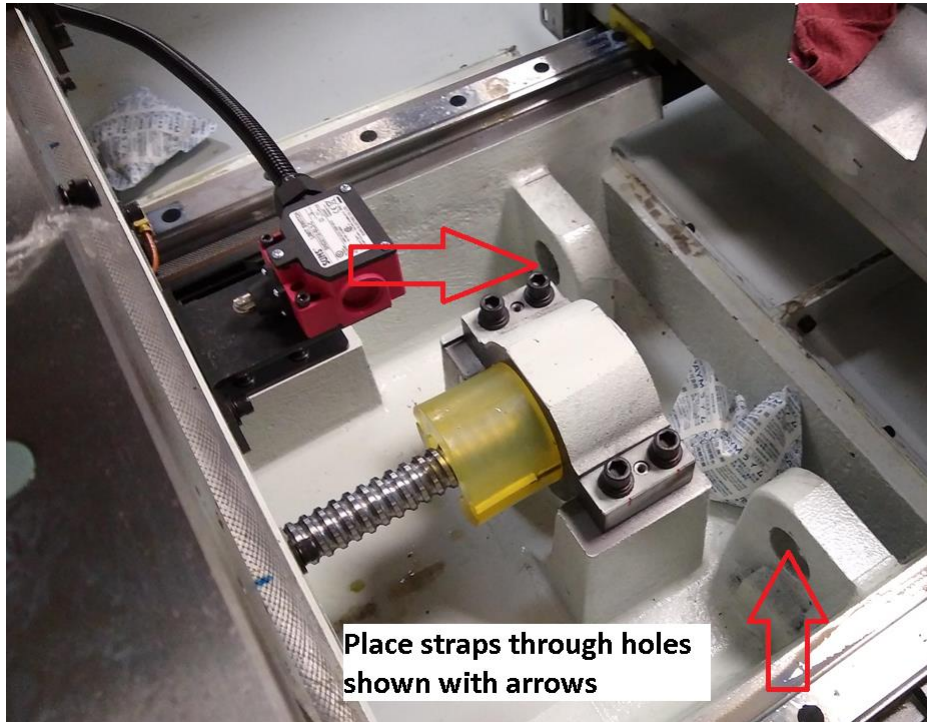

Figure 7 – Lifting Machine with Straps
- To move the machine while on the pallet, a 15000 lb. forklift with a 24" load center & 6' fork extensions is required. Depending on the load center or rating of the forklift, a larger forklift may be required. The center of gravity (CG) of the machine while on the pallet is ~56" from the edge of the pallet.
- The TMC may be lifted via 2 eye bolts on top of the column and 2 straps at the front of the Y axis as shown in figures 7 and 8.